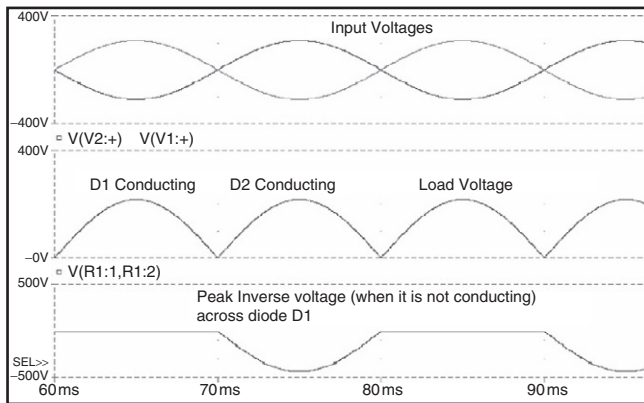

FIGURE 2.5b The waveforms.
**SOLUTION.** (a) The input voltage, load voltage, and the voltage across D1 when it is not conducting ( $V_{RRM}$ ) are shown in Fig. 2.5b.